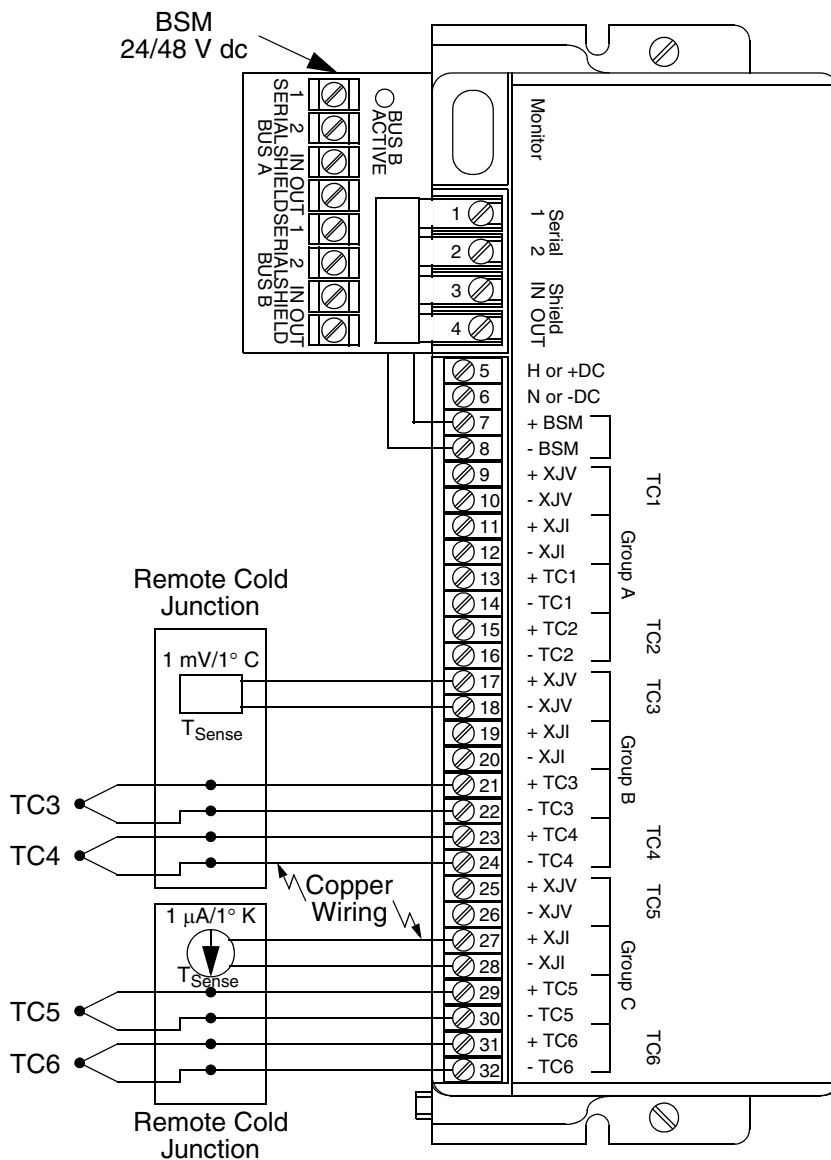

Figure 70. Terminal Connections for a 6232B 6 Circuit Thermocouple Input Block
The 6232B 6 Circuit Thermocouple Input Block, Figure 70, is available in two versions: one requiring a 115 V ac power supply, and another requiring either 24 or 48 V dc power. The blocks are the same in other respects. The block has six input channels, in three isolated groups of two channels apiece. Each input can be used with thermocouple types J, K, T, E, B, R, S, and N. A linear (L) option allows for millivolt inputs in the range of -25.00 to 150.00 mV.
As Figure 70 shows, power is brought into the block at terminals 5 and 6. Terminal 5 is used for dc positive or ac hot. Terminal 6 is used for dc negative or ac neutral. These terminals can take up to one AWG #14 wire.